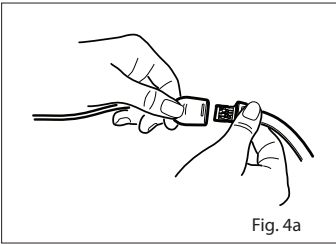

Fig. 4a
1. Refer to Fig. 4a. Orient the sensor's connector tab so that the side with the "shiny" contacts is facing up. Orient the patient cable with the color bar and finger grips facing up.